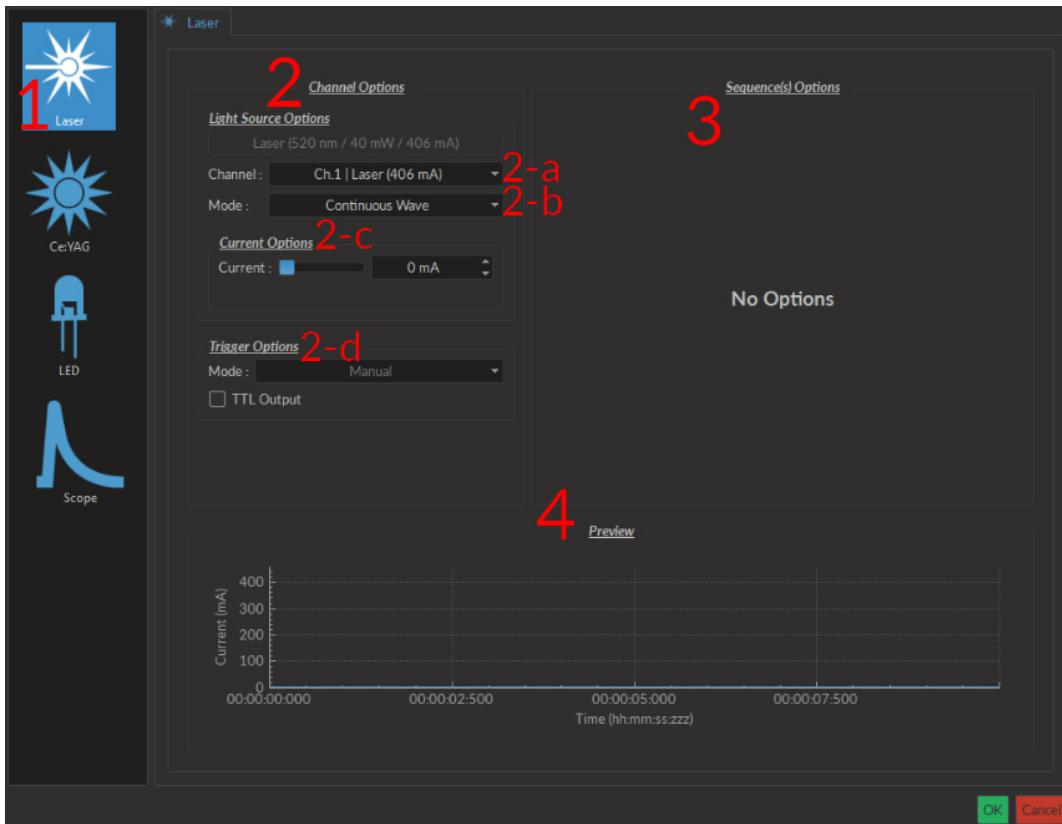

Figure 3.2: Light Source Channel Configuration Window
Each light source driver is separated into a number of **Channels**. Each channel controls a single light source. While each channel can be controlled in **Stand-alone** mode by the driver, additional functions can be accessed for these channels when the driver is connected to the Doric Neuroscience Studio. These function are used through the **Channel Configuration** window (Fig. 3.2).
1. The **Channel Types** (Fig. 3.2) are displayed on the left side of the window. These include **Laser** light sources, **Ce:YAG** light sources and **LED** light sources, as well as the **Scope** to measure signal using the driver.
2. The **Channel Options** box (Fig. 3.2) includes **Light Source Options** and **Trigger Options** for the given channel.
- a) The **Channel** (Fig. 3.2) drop-down list identifies which driver channel is currently being edited, assuming a driver with multiple channels.
- b) The **Mode** (Fig. 3.2) drop-down list includes each possible driver mode. These are used to control the pulse sequences emitted by the light source. The options related to this mode are detailed with the **Sequence Options**.
- c) The **Current Options** (Fig. 3.2) includes the slider used to control the current sent to the light source.
- d) The **Trigger Options** (Fig. 3.2) allow the selection of a number of trigger modes to activate a pulse sequence.
3. The **Sequence options** box (Fig. 3.2) is where sequence options are defined depending on the mode. The **Continuous wave**, **External TTL** and **External Analog** modes have no additional sequence options.
4. The **Preview** box (Fig. 3.2) displays a preview of the chosen sequence while in the **Continuous Wave**, **Square Sequences** and **Complex Sequences** mode.